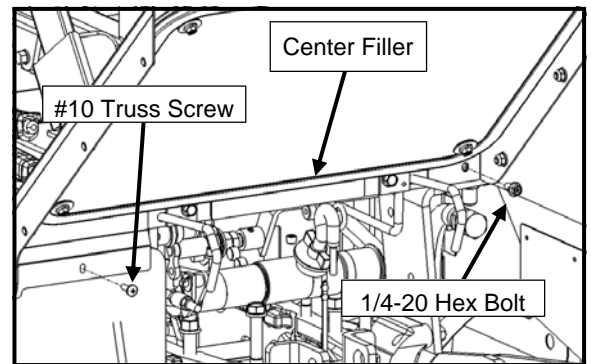

Figure 3.2: Install lower bolts
- 3.2 Attach the assembled rear cab panel to the vehicle seat platform using (1) #10-32 truss head machine screw on the left (drivers) side, and (1) 1/4-20 hex bolt with 1/4" hex nut on the right side (see Figure 3.2).